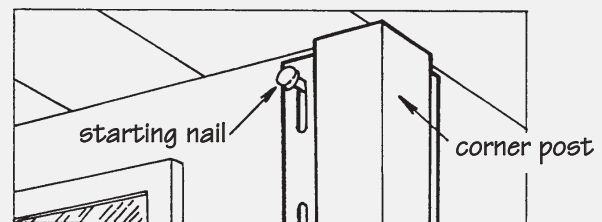

Figure 19.
- Space the fasteners a maximum of 16" apart for the horizontal siding panels, every 12" for the vertical siding panels, and every 8" to 10" for the accessories. Start fastening vertical siding and corner posts in the top of the uppermost slots to hold them in position. Place all other fasteners in the center of the slots (Fig. 19).